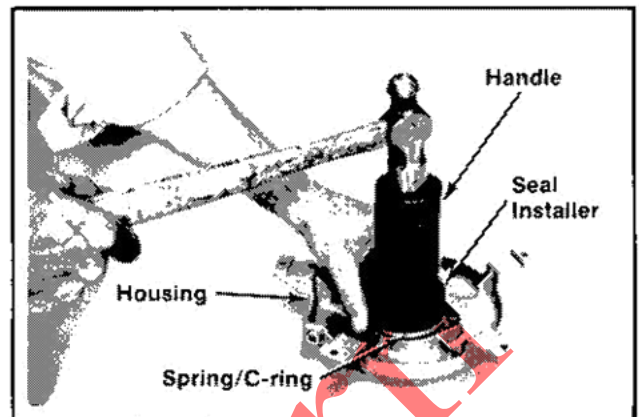

Figure 7-19. Installing Spring Using Seal Installer And Handle.
9. Obtain Seal Installer #11791 and Handle #11795. (Refer to the "Special Tools" Section.) Hook the spring hook over the post in housing. Make sure the spring/c-ring is centered over the spring pocket in housing. Drive the spring out of the c-ring and into the spring pocket using the seal installer and handle. Refer to Figure 7-19.